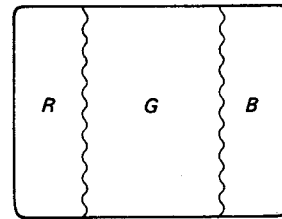

Fig. 5-3.
8. Turn the PURITY adjusting knob so as to center the green band on the screen as shown in Fig. 5-3.